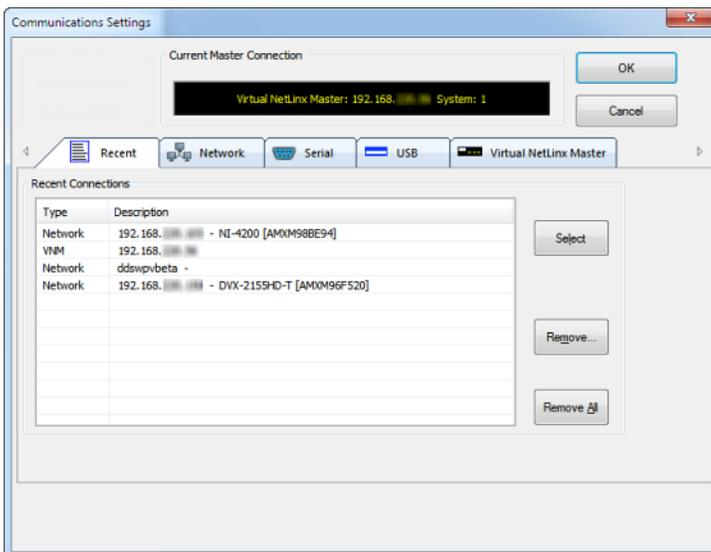

FIG. 16 NetLinx Studio - Communication Settings dialog (TCP/IP selected)
3. Click **System Settings** to open the *Communications Settings* dialog. If you do not have a system selected, click the **Default Settings** button (FIG. 16).